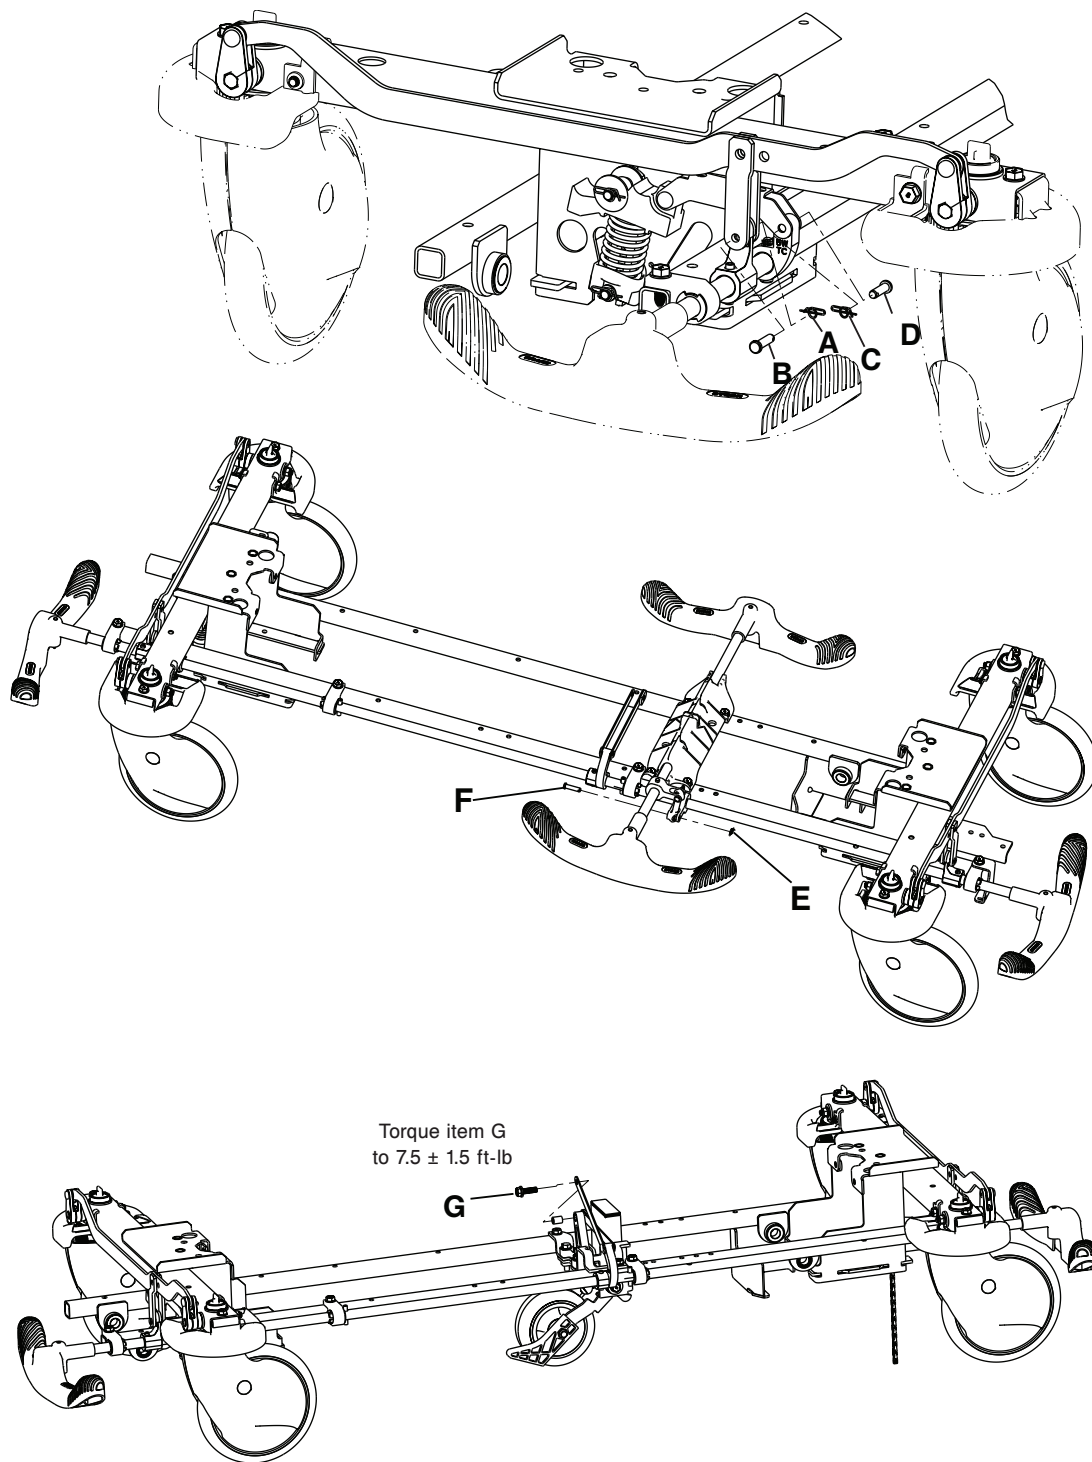

Figure 5 – Replace the brake rod
5. At the head end of the product, use needle nose pliers to remove the rue ring cotter (A) and clevis pin (B) that secure the head end brake link assembly to the brake activation crank (Figure 5). Remove the brake rod crank cap. Save the rue ring cotter, clevis pin, and brake rod crank cap.